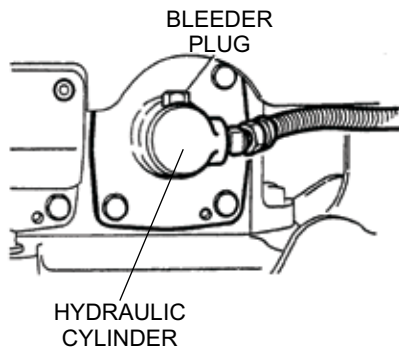

Figure 37. Bleeder Plug
- Loosen bleeder plug located at top of hydraulic cylinder on side of vibrator (Figure 37). Air remaining in the circuit will be forced out of the bleeder plug. Once all air has been purged from the hydraulic system, tighten bleeder plug securely